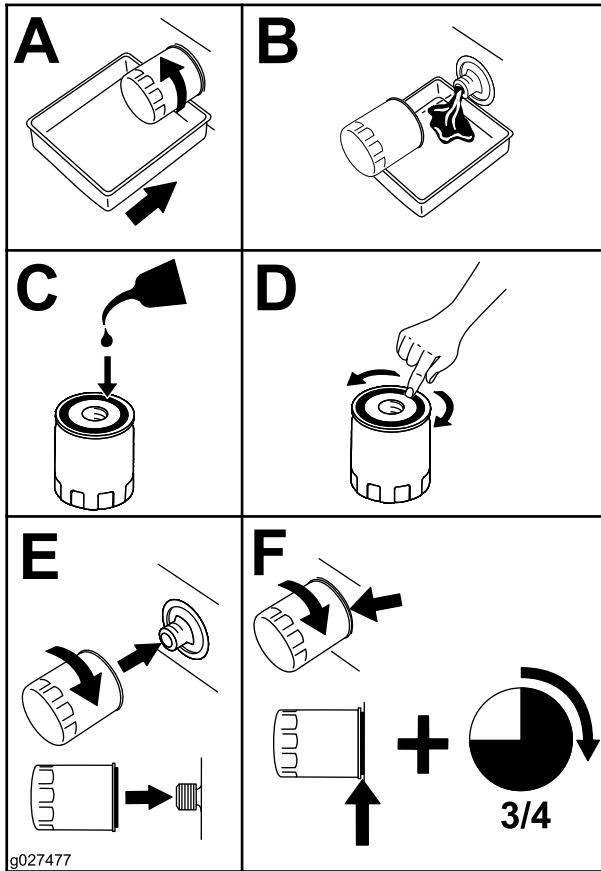

Figure 31
5. Change the engine oil filter (Figure 31).